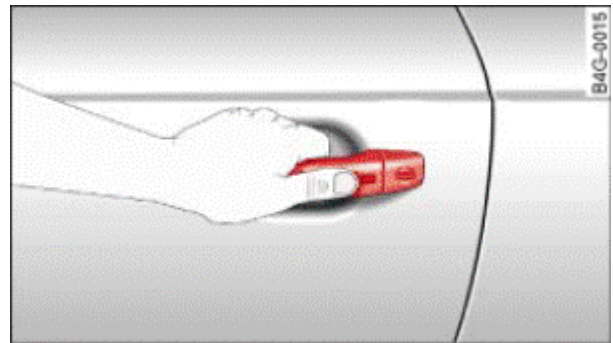

Figure 1. Reaching into door handle while touching the lock sensor.
- If the customer attempts to lock the vehicle by touching the lock sensor on the outer side of the handle, but reaches into the door handle simultaneously (triggering the unlock sensor) the door will not lock (Figure 1). When lock and unlock signals are sent from the lock sensor and the unlock sensor at the same time, the unlock signal has a higher priority.